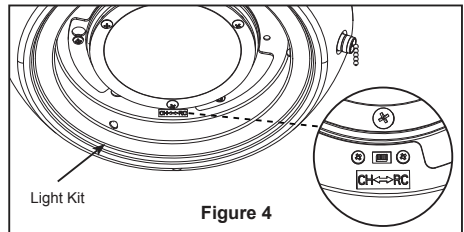

Figure 4
- ☐ 4. Slide the switch to "CH" when use the pull chain of light kit. Slide the switch to "RC" while the fan is using with optional remote control-CR500 accessory. (Figure 4)